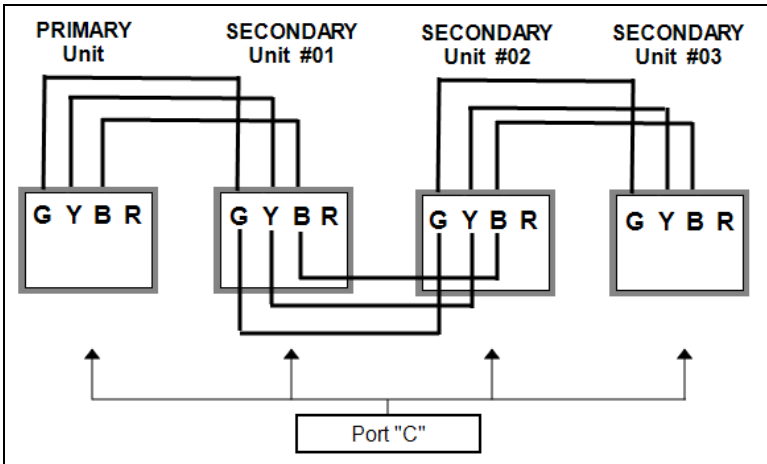

Figure 9
7. Connect any additional heat pumps as indicated, doubling up the wires as shown. See Figure 9. Confirm the same color wires connect to the same wires on each heat pump ("G" to "G", "Y" to "Y", and "B" to "B"). Up to 16 heat pumps can be controlled by one heat pump.